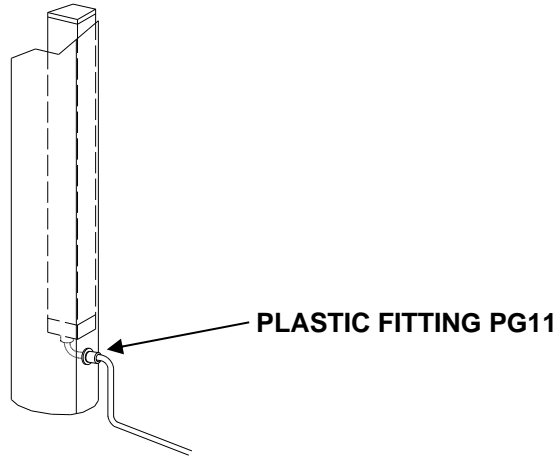

Figure 5
- Insert the cable (terminating with the female connector) in the PG11 plastic fitting, housed in the column (figure 5).